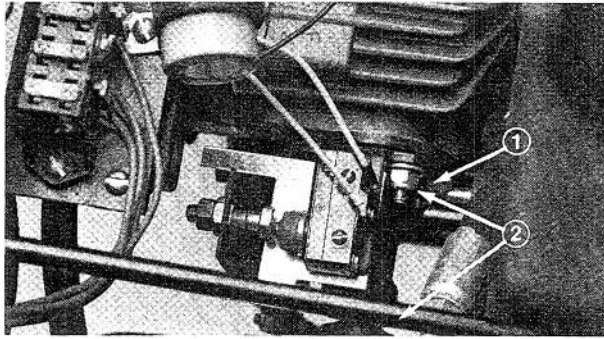

Figure 44
4. Loosen two locknuts securing pump plate so plate is free to move (Fig. 44).
5. Start engine and rotate pump plate (Fig. 44) in either direction until wheel ceases rotation.
6. Stop engine and tighten locknuts to secure pump plate (Fig. 44).